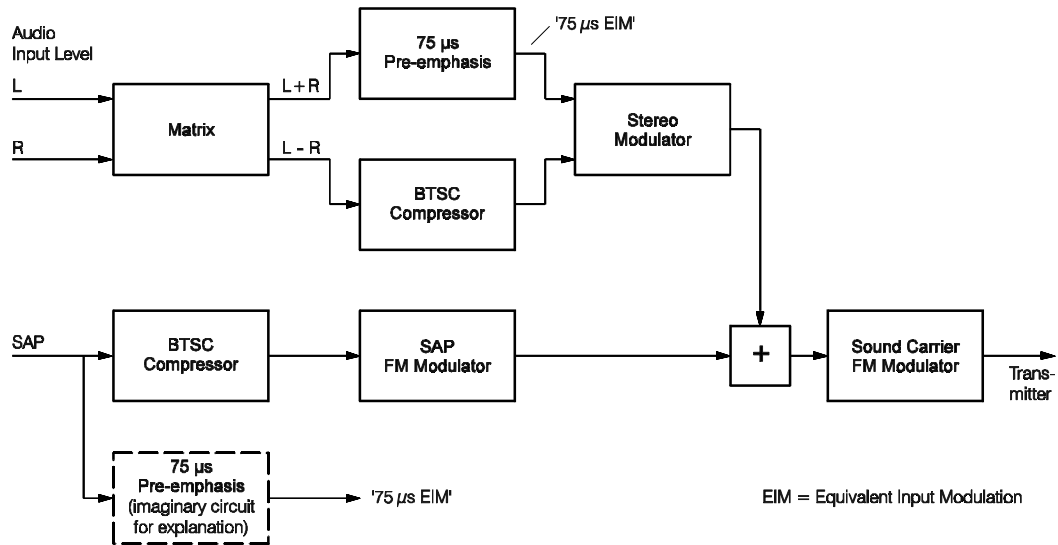

Figure 5-34. Simplified Diagram of a BTSC Transmitter System
The broadband baseband spectrum is transmitted using frequency modulation on the sound carrier (4.5 MHz). Due to the parabolic noise characteristic, which is typical for FM transmission systems, the noise level increases for higher frequencies. To improve the Signal-to-Noise Ratio of the L - R signal and the SAP signal, both channels are encoded by the BTSC Compressor; see Figure 5-34.
Figure 5-34 shows a simplified diagram of a BTSC transmitter system. The BTSC modulation standards and the maximum allowed peak deviations are shown in Table 5-15.
- The maximum allowed audio input level of 100% modulation ( $100\% \hat{=} 0$  dB) is frequency dependent due to the  $75 \mu s$  pre-emphasis; see Figure 5-34.
This is used as a reference and determines the modulation level that would occur for the equivalent Mono signal processed using a  $75 \mu s$  pre-emphasis, see Figure 5-34.